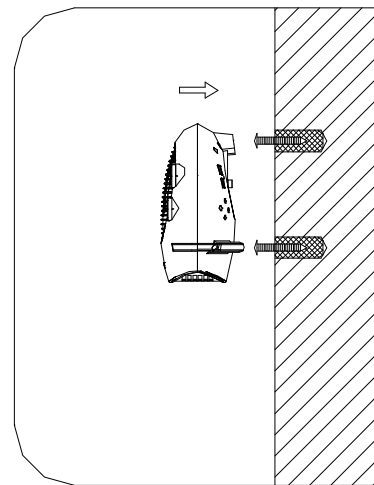

Fig. 3
6. Hang the heater (air outlet face down) onto the screws through the mounting holes in the base. (Fig. 3)